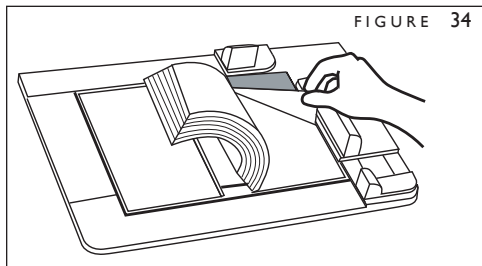

FIGURE 34
4. Carefully lift the right side of the book block and remove the large release paper from the right panel of the Fastback Hardcover (Figure 34). Lower the book block onto the panel and press it against the panel to secure it.